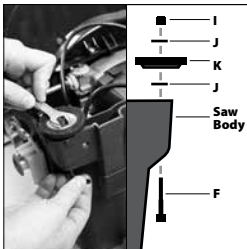

Fig. 2
- Once the bolt protrudes through the bottom of the saw, place one washer (**J**), followed by a rubber foot (**K**) and a second washer (**J**) over the bolt. Use a M5 Hex key to hold the bolt and secure the whole assembly together with the $\varnothing 6$ mm nylock nut (**I**) (**fig.2**).